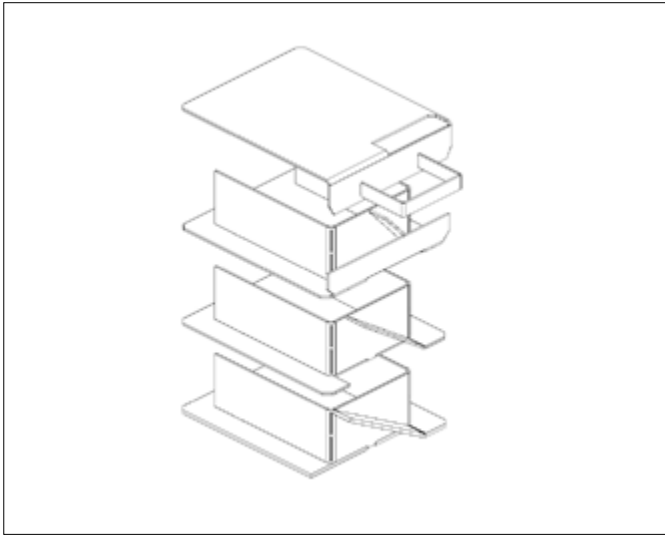
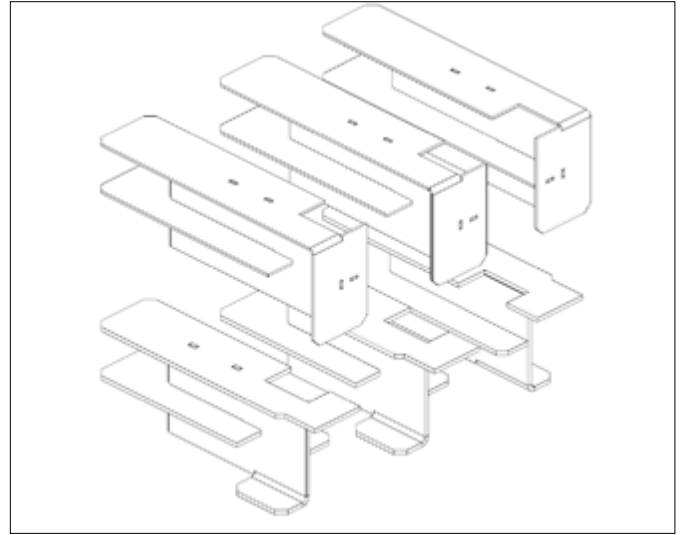
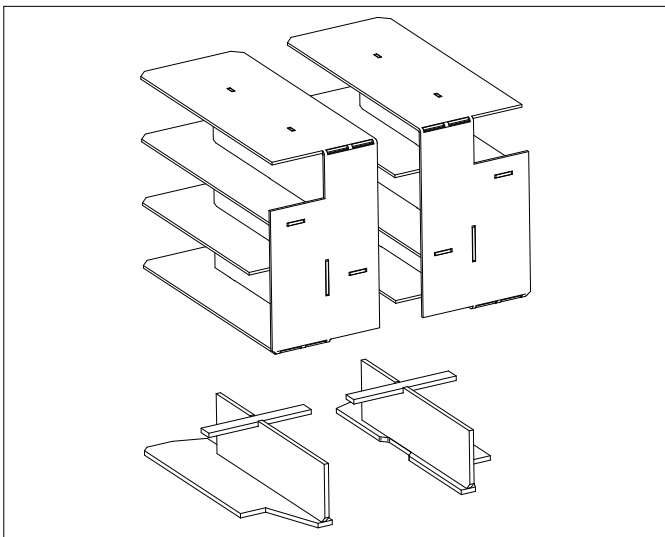

Figure 11-1: Baffles in Vortex Pro External Combi 21
Figure 11-3: Baffles in Vortex Pro External Combi 36
Figure 11-2: Baffles in Vortex Pro External Combi 26
2. Remove the baffles as shown in Figure 11-1, Figure 11-2 and Figure 11-3.
6. Replace the baffles, ensuring they are correctly fitted. Refer to Figures 11-1 to 11-3, as appropriate.